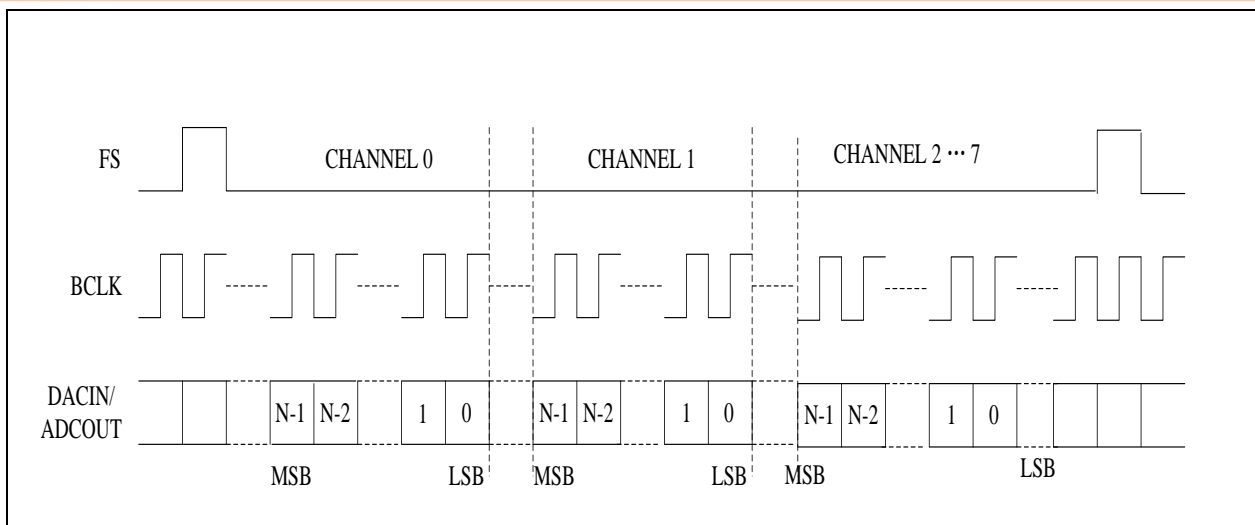

Figure 35 PCM Time Slot Audio Data
Normally, the DAC and ADC data are clocked immediately after the Frame Sync (FS); however, in PCM Time Slot Mode, the audio data can be delayed by setting **LEFT_TIME_SLOT_TSLOT_L0_REG0XF[9:0]** and **RIGHT_TIME_SLOT_TSLOT_R0_REG0X10[9:0]** for the left and right channels, respectively. **I2S_PCM_CTRL2_PCM_TS_EN0_REG0XE[10]** needs to be set to 1. These delays can be seen before the MSB in Figure 35.